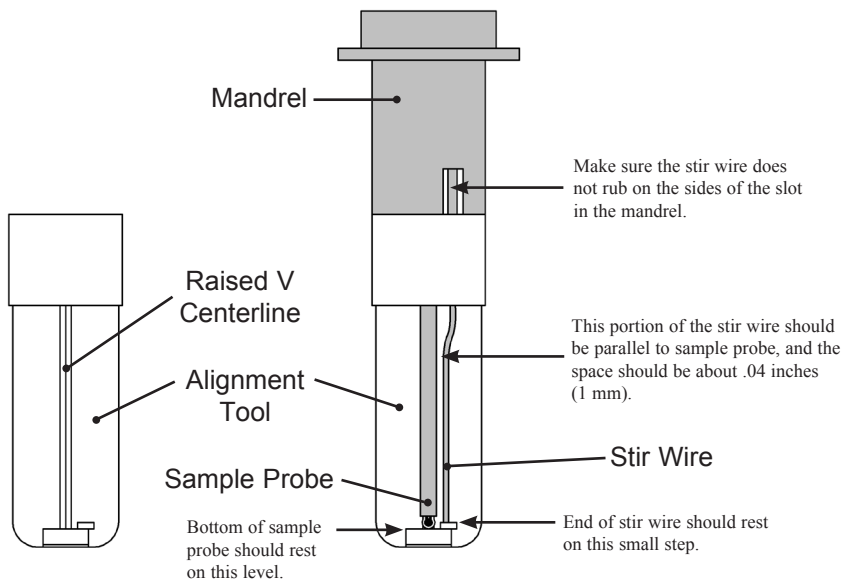

Figure 8: Probe and Stir/Freeze Wire Alignment
Probe and stir/freeze wire alignment using the alignment tool (see Figure 8):
1. Slide the tool squarely up onto the mandrel, round end first, with the stir/freeze wire located as shown in Figure 8.
3. With the alignment tool squarely up on the mandrel, the bottom of the probe should rest on the main level, as shown in Figure 8. If vertical adjustment is necessary, first loosen the probe setscrew. Then raise or lower the probe within its mandrel as necessary, and then retighten the probe setscrew gently (overtightening will crack or distort the thin plastic wall of the mandrel). Recheck the probe position.
4. The bottom of the stir/freeze wire should be even with the small step, as shown in Figure 8. As necessary, remove the head cover, loosen the stir/freeze wire setscrew(s) and reset the stir/freeze wire. Retighten the stir/freeze wire setscrew(s). Then bend the wire, if